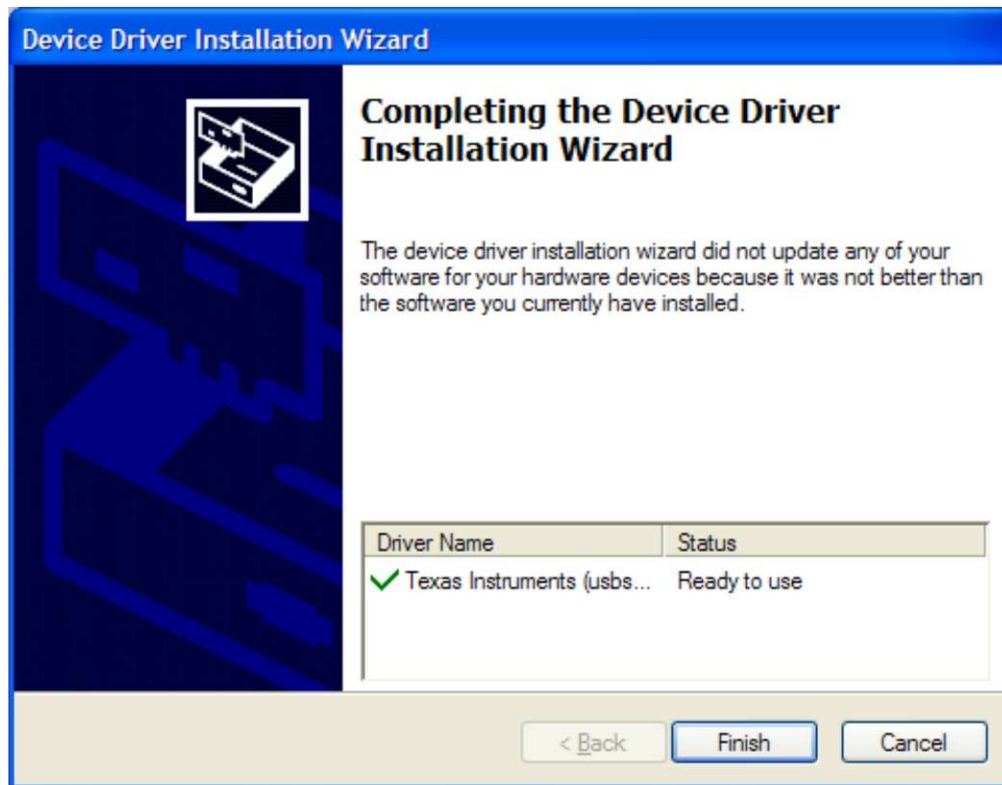

Figure B-2. Successful Driver Installation for Access Point
- The driver installation wizard shows if the driver is successfully installed (see Figure B-2)